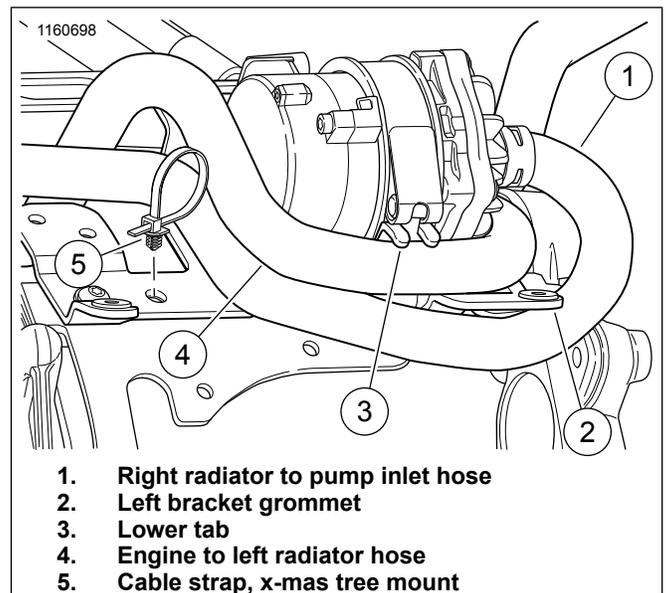

Figure 15. Routing of Right Radiator to Pump Inlet Hose
20. See Figure 15. Position the right radiator to pump inlet hose (1) behind the left bracket grommet (2) and behind the engine to left radiator hose (4).
- a. See Figure 15. Verify hose is positioned correctly.
2. See Figure 15. Secure pump harness with cable strap (5).